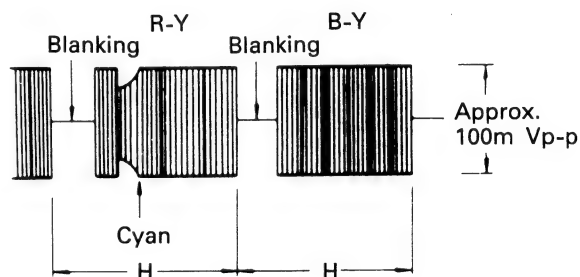

Figure 3.
3. Adjust LM01 for the flat level of amplitude in each colour bar waveform on the scope. (See figure 3.)